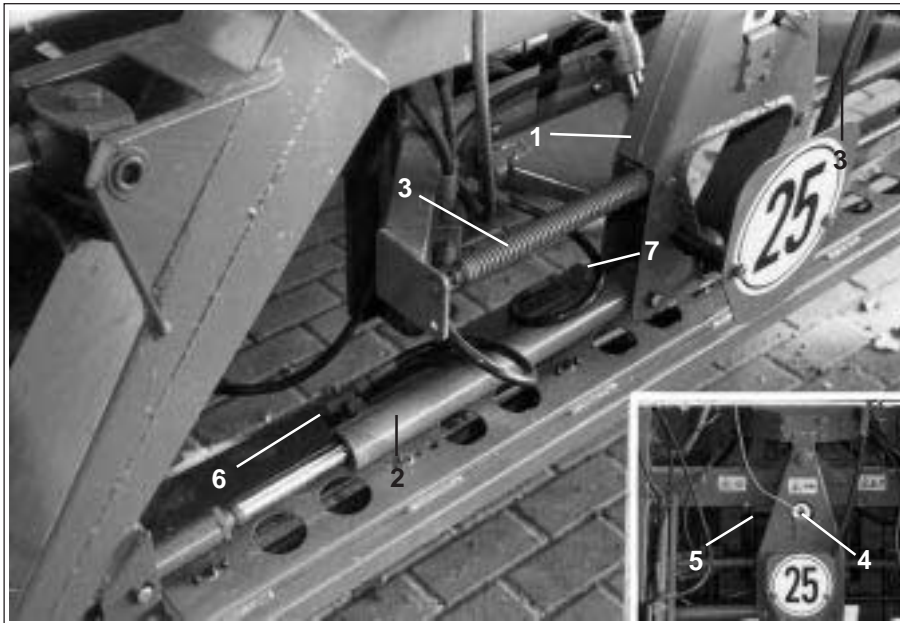

Fig. 10.37
For setting the boom tilting the swivel arm (Fig. 10.37/1) is moved via the hydraulic ram (Fig. 10.37/2). The hydraulic ram is actuated via the switch box (Fig. 10.38/1) by pressing the key (Fig. 10.38/2). By moving the swivel arm a differing spring pre-tensioning of both springs (Fig. 10.37/3) is achieved. Hereby the boom is brought into the wanted position.
- Turn by hand the potentiometer (Fig. 10.37/4) on the roller around which the thread (Fig. 10.37/5) is guided until the central diode (Fig. 10.38/4) lights up.